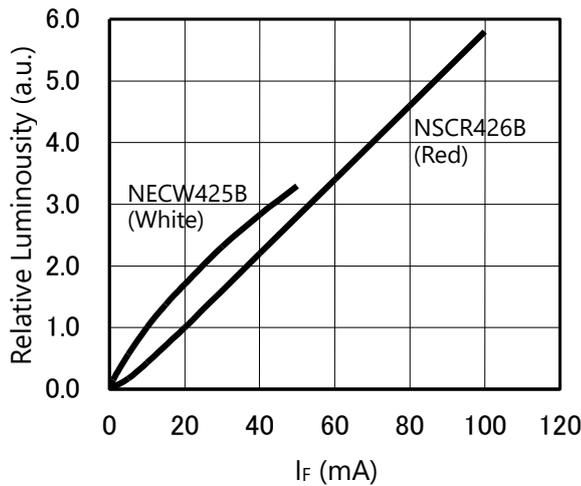

Figure 1. Forward Current vs. Relative Luminosity of NECW425B and NSCR426B
i) Please refer to Figure 1 for NECW425B.
a) The Figure 1 shows:
b) Also the Figure 1 shows: